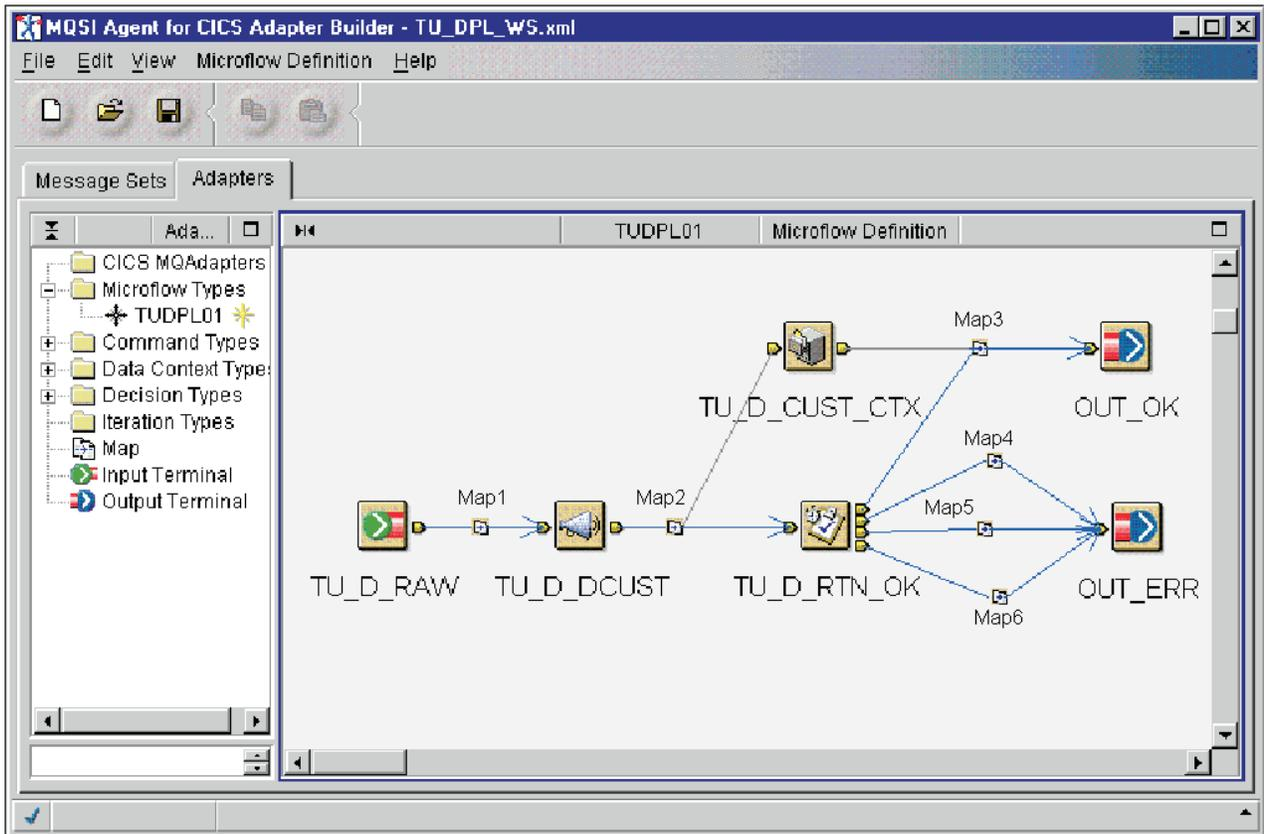

Figure 31. The TUDPL01 microflow
**Note:** See Figure 31 on page 48 to see the placement of the four Map nodes (Map 3–Map 6). The Map node labels are for annotation only and will not appear in your workspace.
Refer to Figure 31 to see all of the node connections in the microflow.